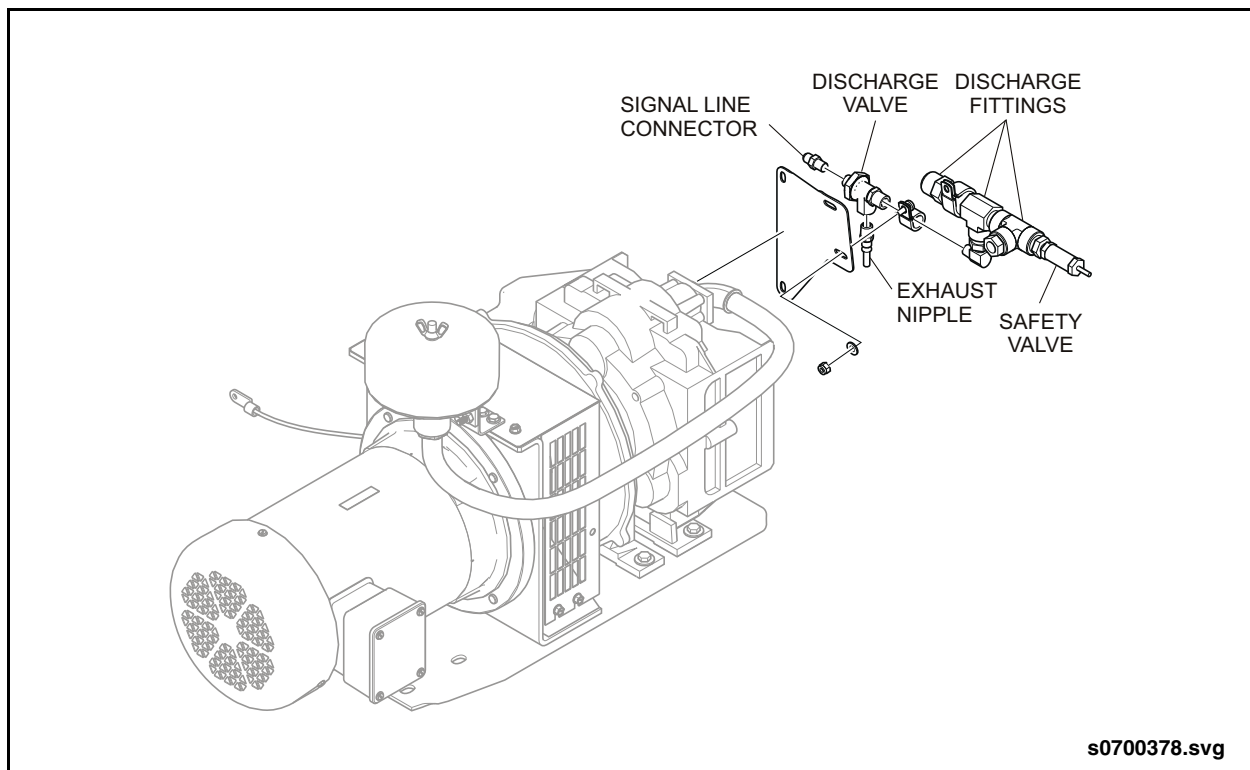

Fig. 11: Air Compressor Discharge Valve
3. Locate the discharge valve on the outlet side of the compressor. See "Fig. 11: Air Compressor Discharge Valve" on page 9.